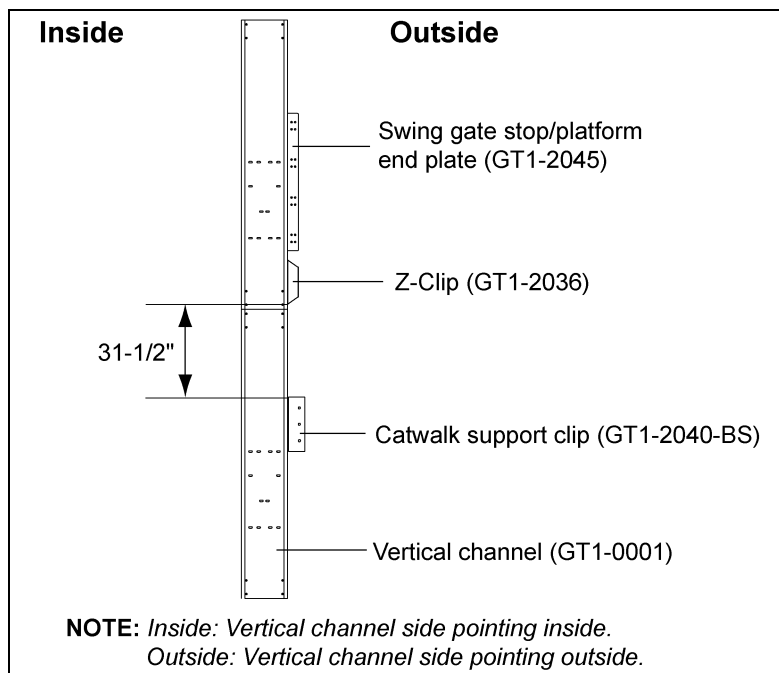

Figure 4F
2. The distance between the Z-clip and support clip for 24' outside catwalk is 31-1/2". (See Figure 4F.)